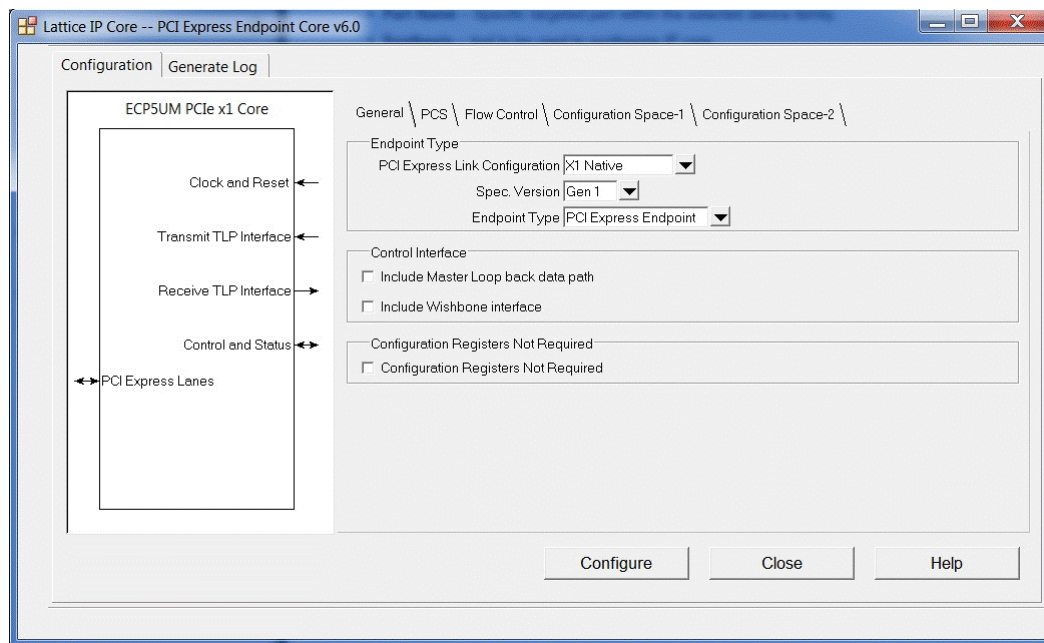

Figure 4.6. PCI Express Endpoint IP Core Configuration User Interface
1. Click the **Customize** button in the Clarity Designer tool dialog box to display the PCI Express IP core configuration user interface, as shown in Figure 4.6.